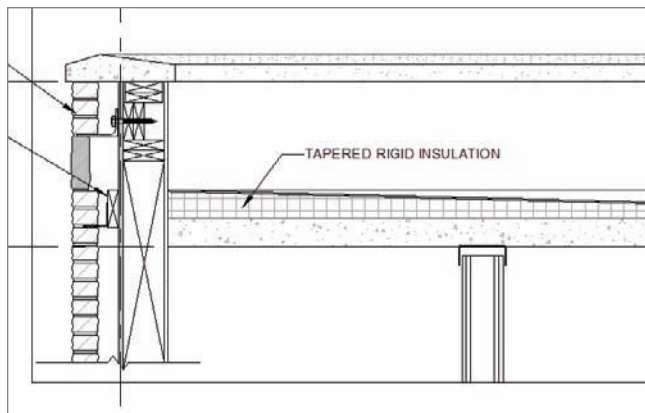

FIGURE 12.77 The slip track without the extra lines
7. Save the model. Your detail should now look like Figure 12.77.